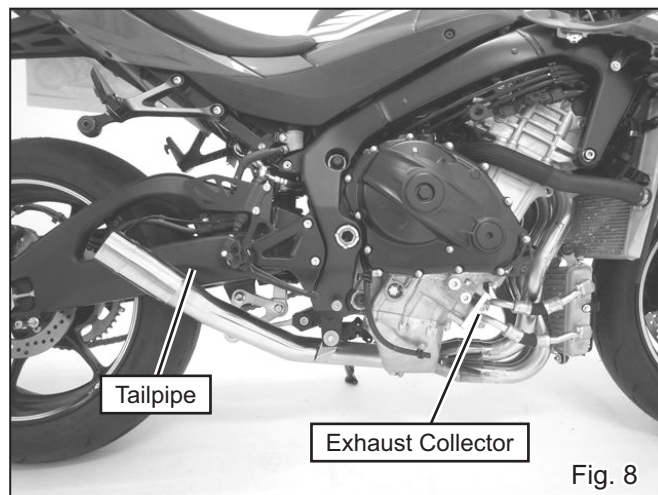

Fig. 8
- 15) Install Tailpipe to Exhaust Collector and fix them with Exhaust Spring Long (See Fig. 8).
- 16) Mount Tailpipe on stock header bracket with stock bolt and Flange Nut M8 (See Fig. 8 & 9). Tighten bolt by hand only at this stage.